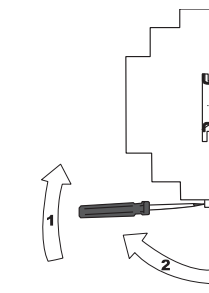

Fig. 11 Removing PR200 from the DIN rail
2. Insert a screwdriver into the eyelet of the slide interlock (Fig. 11)